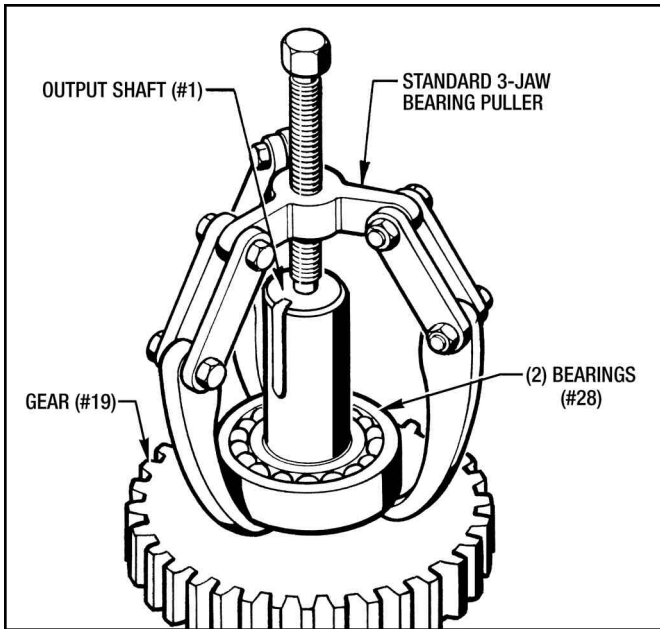

Figure 4.3 - Removing Bearings (#28)
1. If any of the (6) Bearings (#28) have to be replaced, they will have to be removed with a Bearing Puller as shown in Figure 4.3.